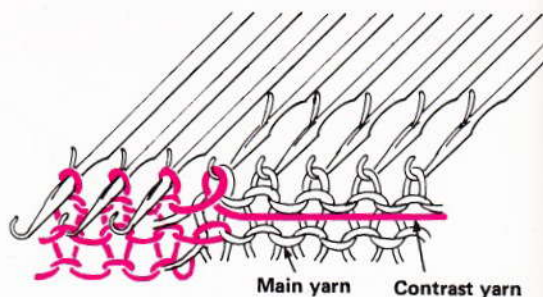

Fig. 122
11. Pass the contrast yarn, as in fig. 122, round the needle next to the last one holding the contrast yarn, then knit next row.